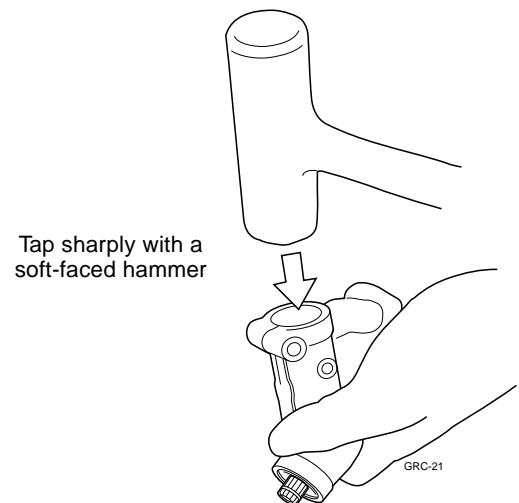

Figure 11.24 Removing excess drag from the 250 gearcase.
- ☛ *Excessive drag can usually be eliminated by sharply tapping the input end of the gearcase with a soft-faced hammer (Figure 11.24).*